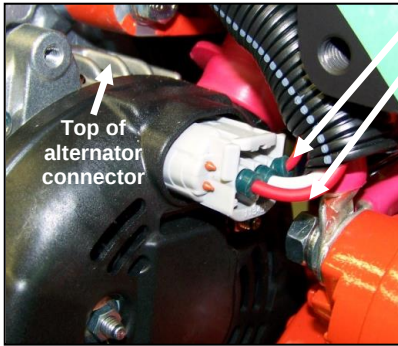

Figure 3
4. Remove alternator connector from alternator. (Figure 3)